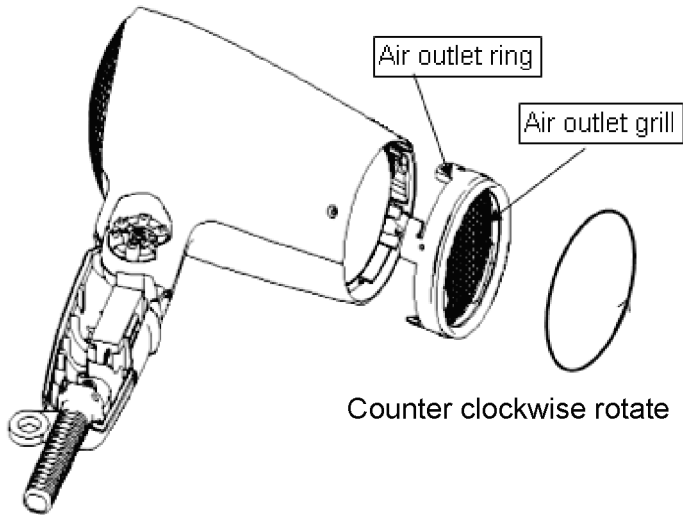

Figure 7
4. Take off an Air outlet grill and an Air outlet ring from Main body by rotating as figure 7.